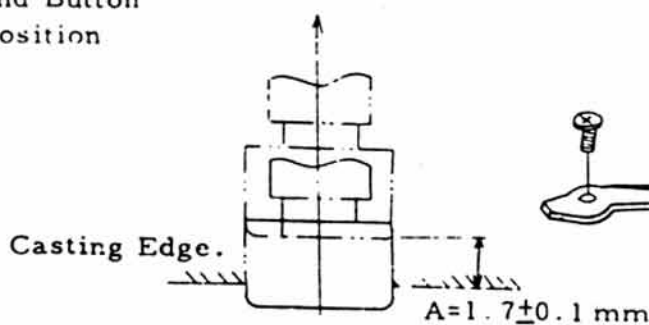

Fig. 35
- 1) The set position of Rewind Button is "A" in Fig. 35. Make adjustment by bending "B" part (Fig. 36) of Clutch Lever.